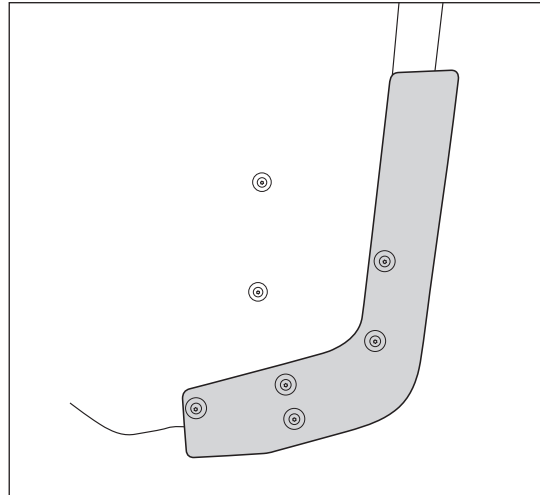

Figure 16
4. Install plastic closeout panel onto the bracket, sandwiching the fabric wheel liner (fig. 16).